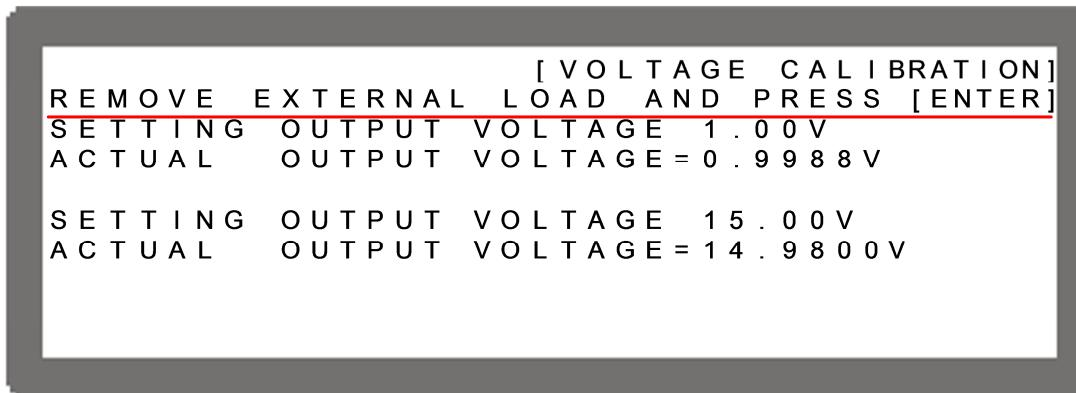

Figure 3-99
3. Press “” to confirm entering into the VOLTAGE CALIBRATION options as shown in Figure 3-99.